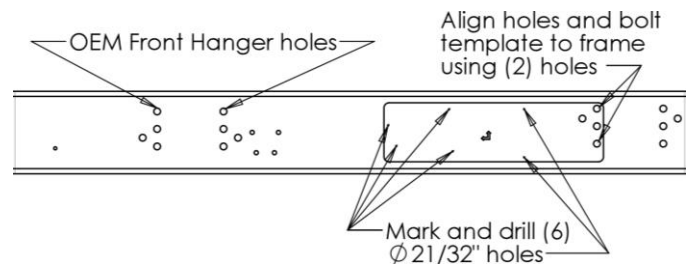

Figure 7. Template 10811-027 Location
13. For a 10811-027, align the template with the rear spring hanger holes. Ensure that the arrows are pointing up and towards the front of the vehicle, as shown in Figure 7.